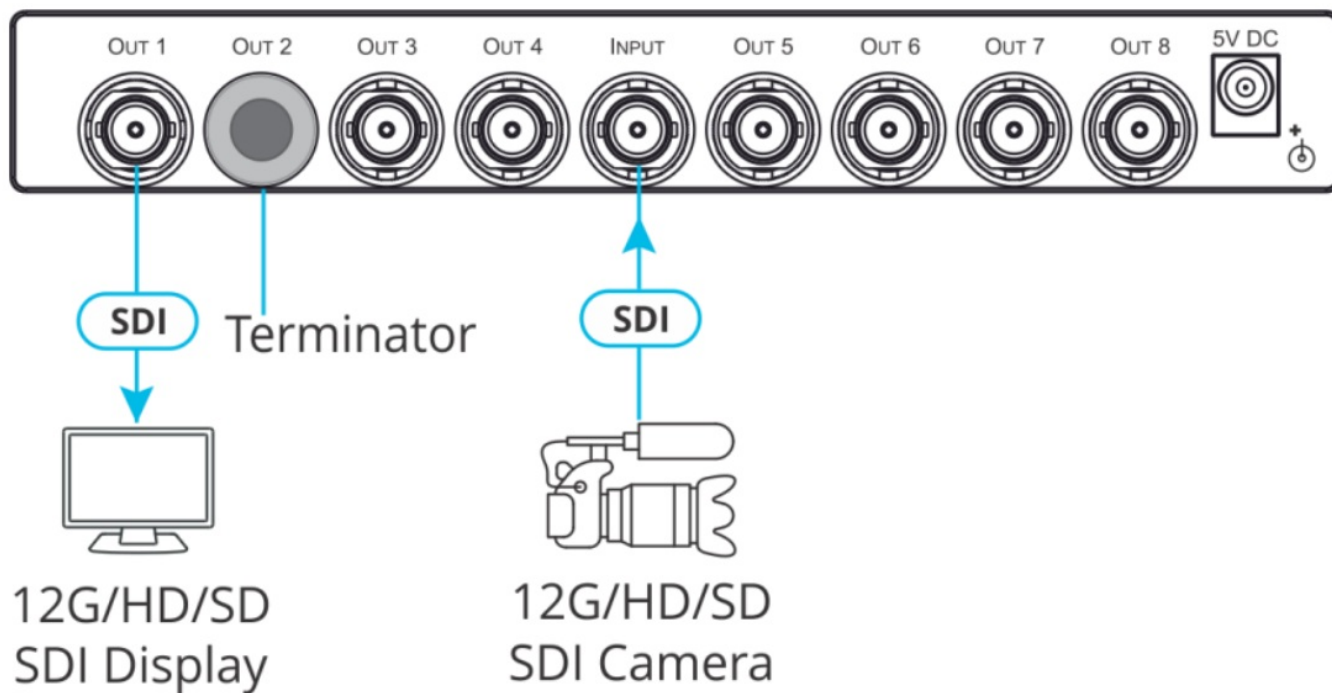

Figure 2: Connecting to the VM-8UX
3. Connect the 5V DC power adapter to the power socket and connect the adapter to the mains electricity (not shown in Figure 2).